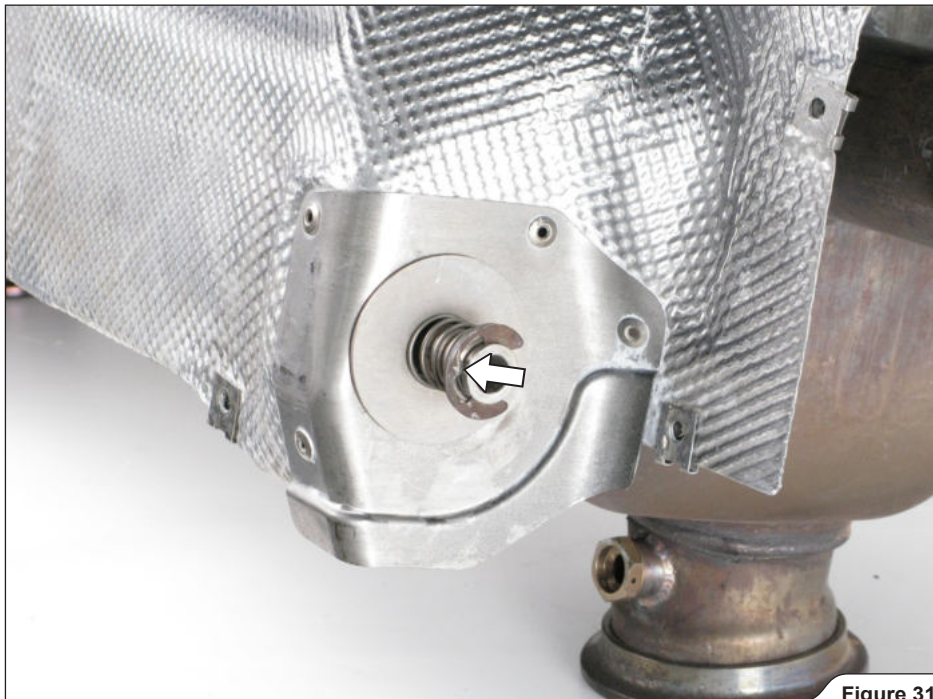

Figure 31
22. Undo the marked spring clip and remove the spring and washer on both sides of the muffler, than carefully remove the rear part of the muffler's heat shield (**Figure 31**).